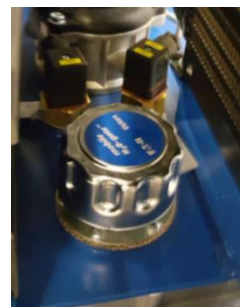

Fig. 51
- Loosen the cap on the filler neck (fig. 51). Insert the suction tube of the oil changer and hang the drain line in the corresponding collecting container.